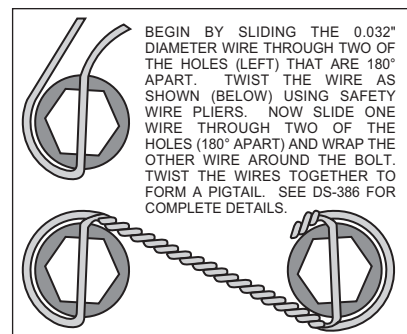

Figure 3. Safety Wire Diagram
- Apply red *Loctite*® 271 to bolt threads (2 and 4) before assembly of the caliper bracket (1) to backing plate face of spindle. Then install bolt (4) through caliper bracket (1), spindle face and the steering arm. Finger tighten the bolt (4) with lock nut (5). Install and finger tighten two bolts (2) with lock nuts (3). Torque two bolts (2) to 47 ft-lb. Torque bolt (4) to 120 ft-lb. **NOTE:** Be sure the heads of the caliper bracket (1) insert nuts are facing outward toward the wheel.
- Install five new wheel studs (6) into the hub (7). Torque to 77 ft-lb. **NOTE:** There are two five lug patterns in the hub (5 x 4.00 and 5 x 4.50). Make sure of the correct hole pattern for the correct wheel application before installing studs into hub.
- Pack the large inner bearing cone (8) with high temperature disc brake bearing grease (available from your local auto parts store) and install into the backside of the hub (7).
- Install the grease seal (9) by pressing into the backside of the hub (7).
- Attach rotor adapter (10) to rotor (11) using six bolts (12). Torque bolts (12) to 180 in-lb. Safety wire bolts (12) using standard 0.032 inch diameter stainless steel safety wire as shown in Figure 3. Please refer to Wilwood's data sheet DS-386 (available at www.wilwood.com/Pdf/DataSheets/ds386.pdf) for complete safety wire installation instructions. **NOTE:** The flat side of the rotor (11) lugs face toward the rotor adapter (10) with the dished side of the rotor adapter (10) facing away from the rotor (11).